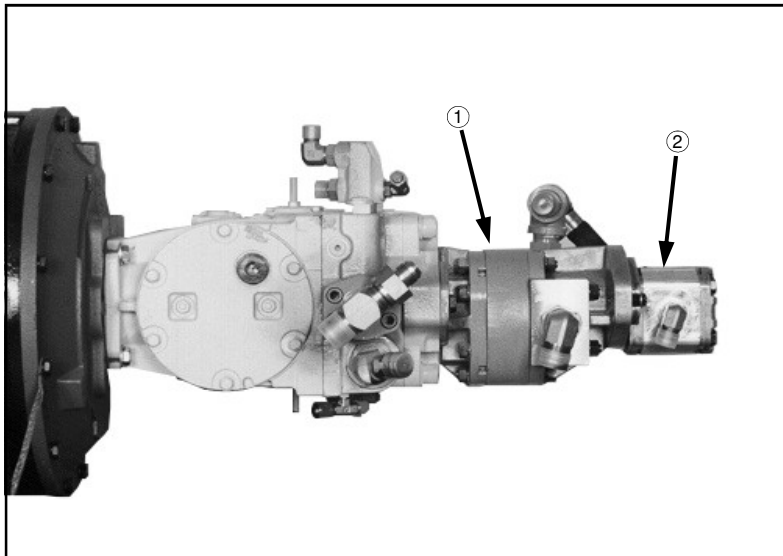

FIG 5.20
The front, larger gear pump (fig. 5.20, item 1) supplies only the cutters or pullers. The rear, smaller gear pump (fig. 5.20, item 2) supplies power steering and the lift cylinders.